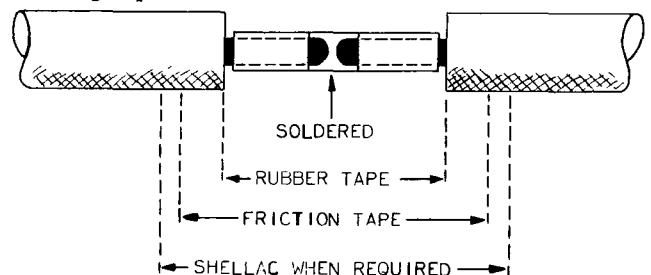

FIG. 4 SPLICING SLEEVE (PARS. 6.21, 6.23)
6.21 Wires to be spliced in a sleeve should be skinned so they will touch at about the middle of the sleeve. Proceed as shown in Figure 4.
6.23 Apply tape within the dimensions shown in Figure 4 and as described in Paragraph 6.15.